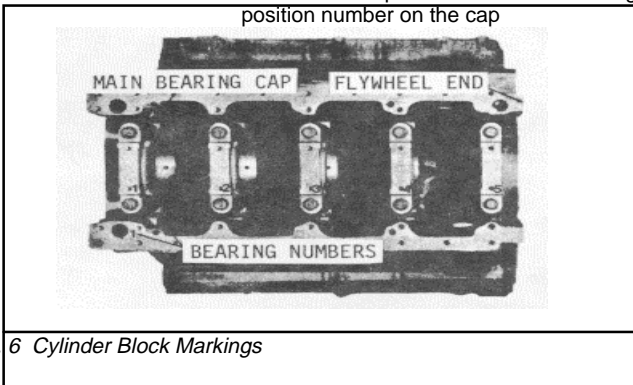

Fig. 6 Cylinder Block Markings
Note: Bearing caps are numbered to correspond with their respective positions in the cylinder block. It is imperative that the bearing caps are reinstalled in their original positions to maintain the main bearing bore alignment. The number of the front main bearing cap is also stamped on the face of the oil pan mounting flange of the cylinder block, adjacent to its permanent location in the engine as established at the time of manufacture. The No. 1 main bearing cap is always located at the end opposite the flywheel end of the cylinder Fig. 6).
- (1) Mount the cylinder block on the overhaul stand.
- (2) If a new service replacement block is used, stamp the engine serial number and model number on the right-hand side of the cylinder block. Also stamp the position numbers on the main bearing caps (Fig. 6) and the position of the No. 1 bearing on the oil pan mounting flange of the block.
- (3) Install all of the required cylinder block plugs and drain cocks. Use a suitable non-hardening sealant on the threads of the plugs and drain cocks. Install the plugs flush with or below the surface of the block.